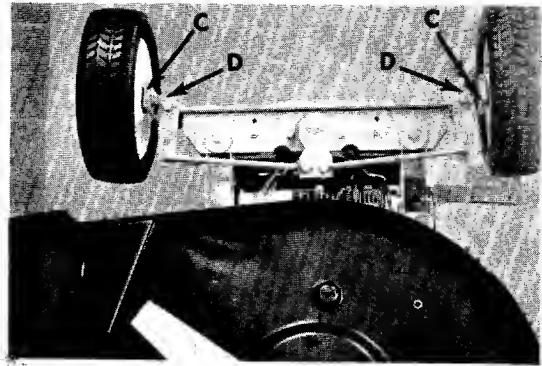

FIGURE 18. LUBRICATION
- b. **Front Wheel Bearings.** Remove the front axle bolts and coat the axle with a multi-purpose automotive type grease and reassemble once a season. See figure 18.
- c. **King Pins.** Lubricate the king pins after every 25 hours of operation with SAE 30 oil. Wipe up excessive oil with a rag. See figure 18.
Step 5. Lubricate all points indicated in figures 18 and 19; then wipe the entire machine with an oiled rag in order to protect the surfaces.